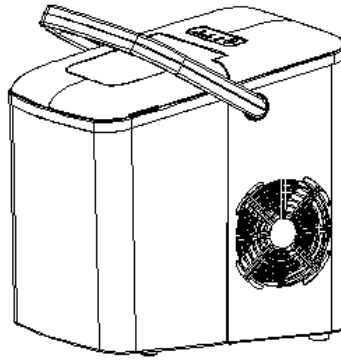

Fig.2
- 2) Make the handle align with the holes at the housing and release the hands, then insert the handle into the holes of housing (see Fig.2).